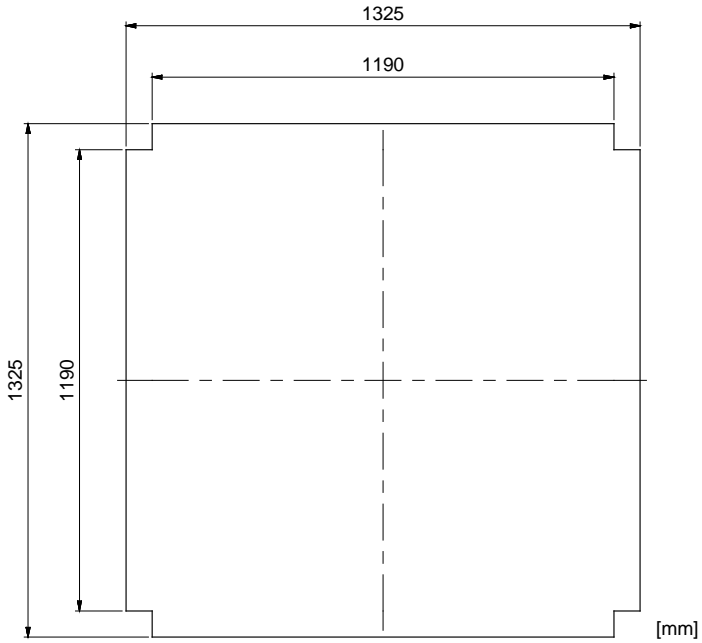
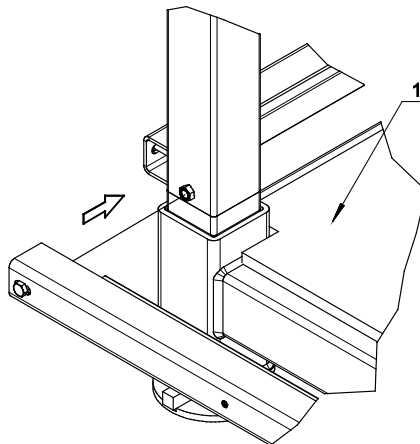

Figure 17. Dimensions for the bottom board.
Figure 18. Example of placement of Formwork Support.
4.1 Check that all four Corner Posts are inserted correctly into the Bottom Frame. Cut a piece of 18 mm Formwork Plywood, complying with EN 636-3, in the format as shown in Figure 17 and place in the centre of the Bottom Frame. Bolt the eight Formwork Supports to the welding nuts located on the Corner Posts. Use the bolts attached to the Formwork Supports, see Figure 18. At this step it is not necessary to tighten the bolts.